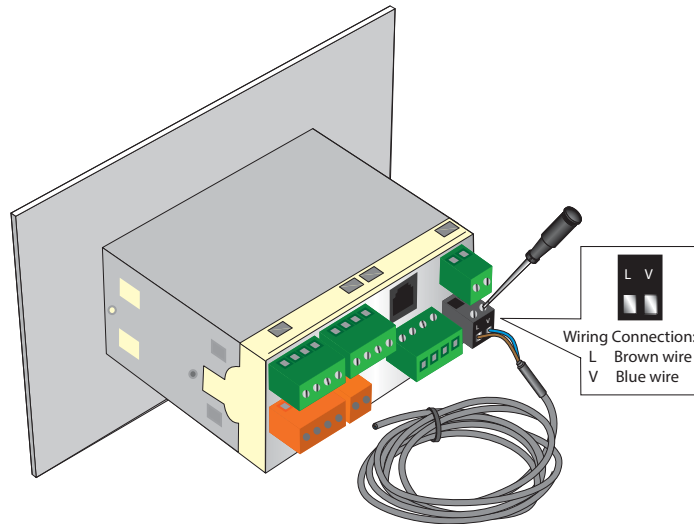

Figure 14 Low Voltage Power Supply Connections
Connect the power supply to the monitor (1) as shown in *Figure 14*.